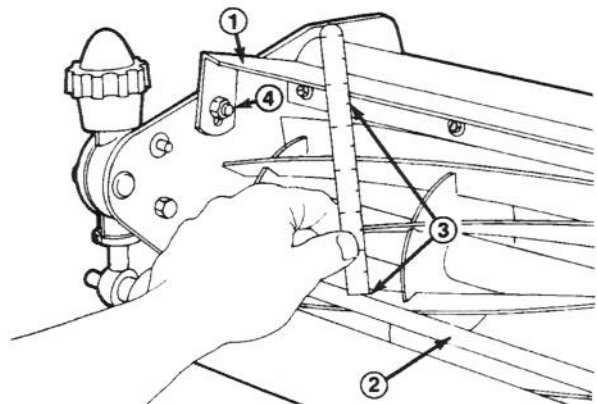

Figure 8
- 1. Set cutting unit in normal cutting position and measure distance from top of front crossbar to shield at each end of cutting unit (Fig. 8).
- 2. Height of shield from crossbar for normal cutting conditions should be 4- $\frac{3}{4}$ inches. Loosen capscrews and nuts securing shield to each side plate, adjust shield to correct height and tighten fasteners (Fig. 8).